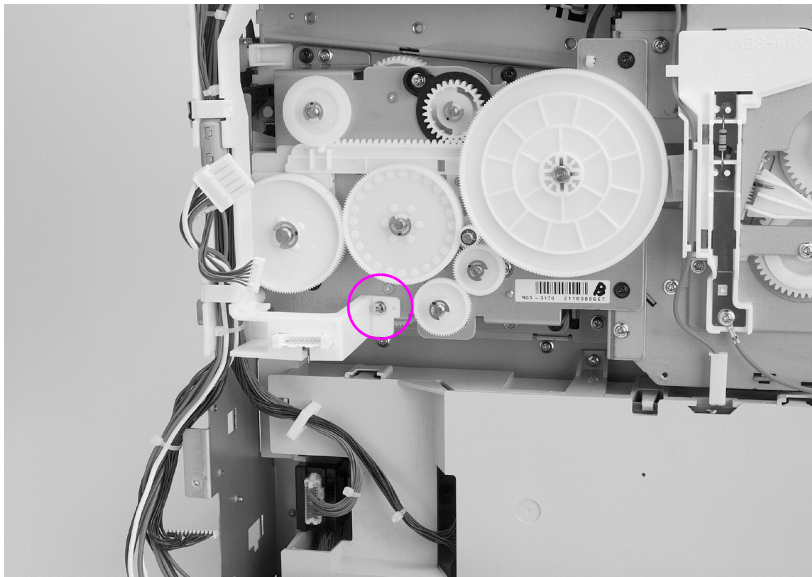

Figure 6-34 Drum drive assembly removal and replacement (1 of 3)
- 5 Remove the screw that secures the cable trough to the drum drive assembly as shown in Figure 6-34.